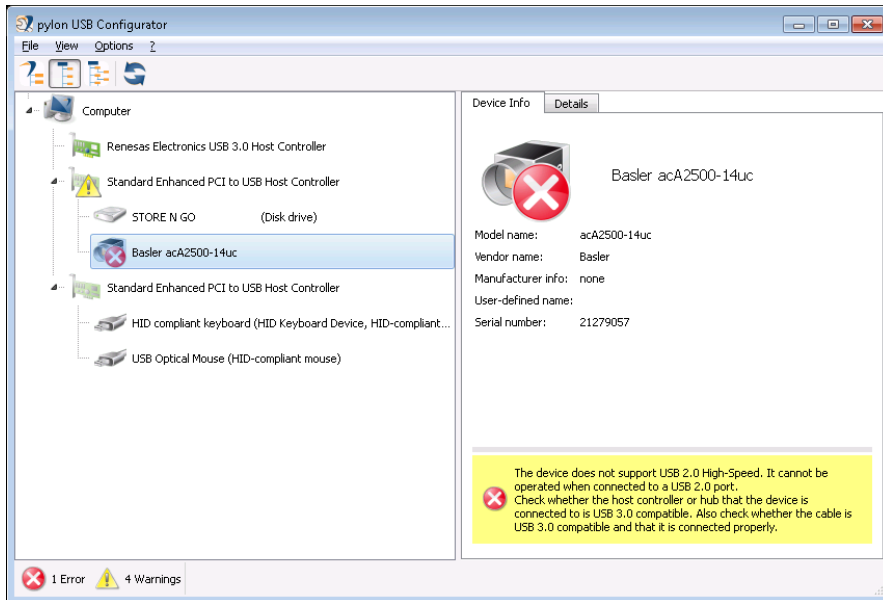

Fig. 6: pylon USB Configurator Window Displaying an Error Condition
- When connected to a USB 2.0 port, Basler ace USB 3.0 cameras will be detected but can't be operated (see also Figure 6 on page 50).